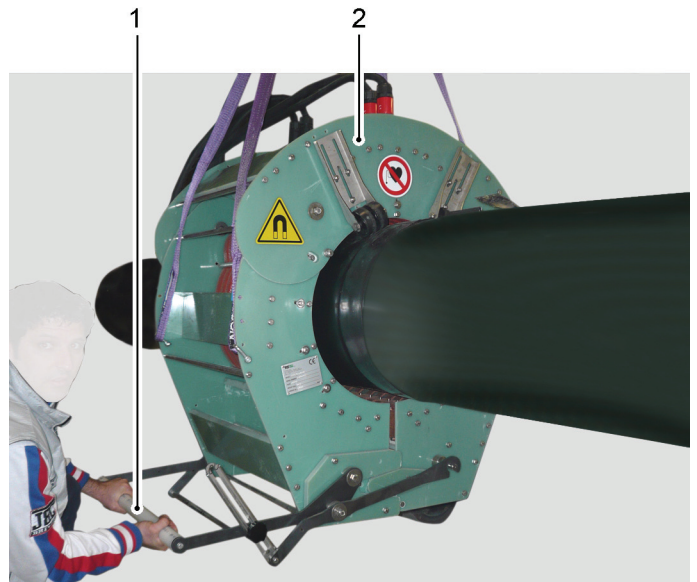

Figure 6.25 - Clamp coil closing
- 7) Fully lift the handle (see Figure 6.25/1) for opening/closing the clamp coil (2).